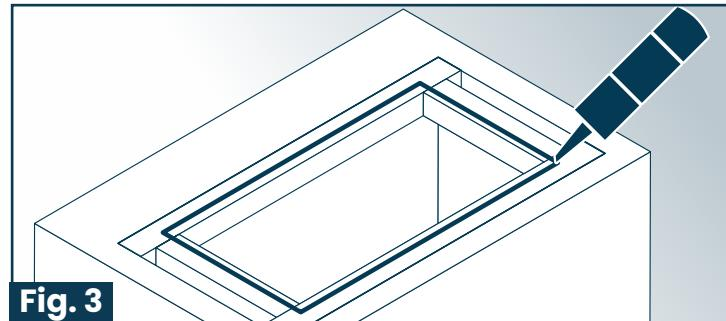

Fig. 3
4. Apply sealant near the inside edge. (Fig. 3)